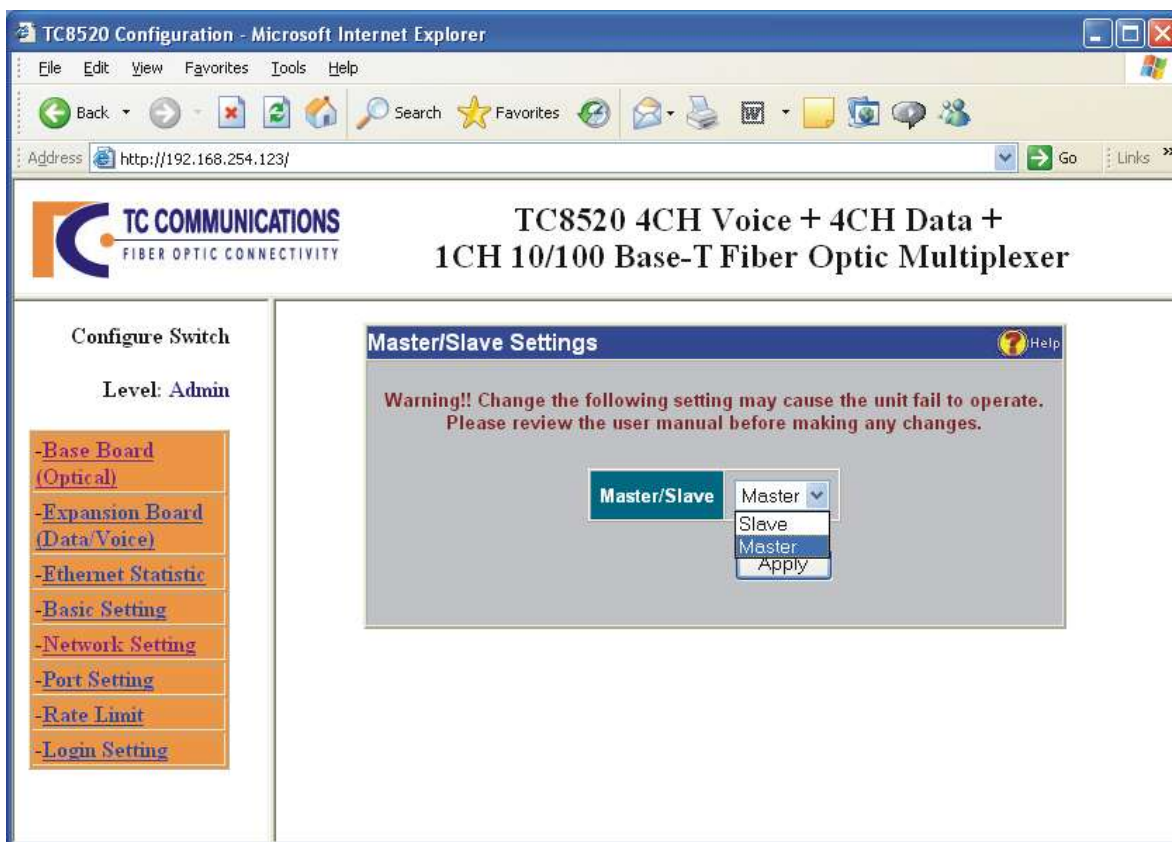

Figure 22. TC8520 Slave Configuration
2. From the Network Settings dialog box as in Figure 19, use the "Master/Slave Settings" link to change the unit to be a Slave unit. After you click the "Master/Slave Settings" link, you will see a dialog box as in Figure 22. Select the "Slave" setting from the pull down menu and click Apply.